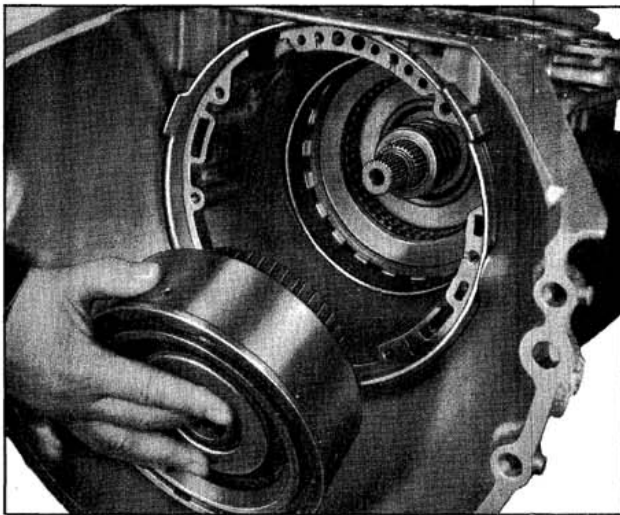

Fig. 6-59 Removing Direct Clutch Assembly
6. Remove the direct clutch assembly. (Fig. 6-59)